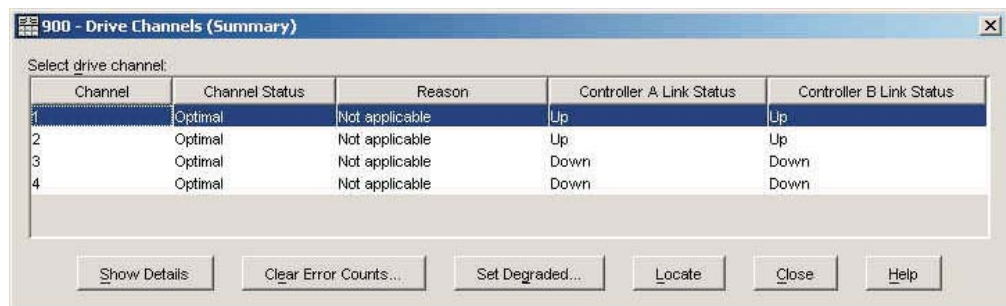

Figure 62. Drive Channels (Summary) window
11. Open the Storage Manager Drive Channels (Summary) window, as shown in Figure 62 (from the Subsystem Management window, click **Advanced > Troubleshooting > Drive Channels**). Clear the error counts; then wait 15 minutes and view the error counts in the upgraded drive loop. If there are none or very few errors, proceed to the next step. Otherwise, wait another 15 minutes and then view the error counts again. If the errors continue to increase, call IBM support for help.